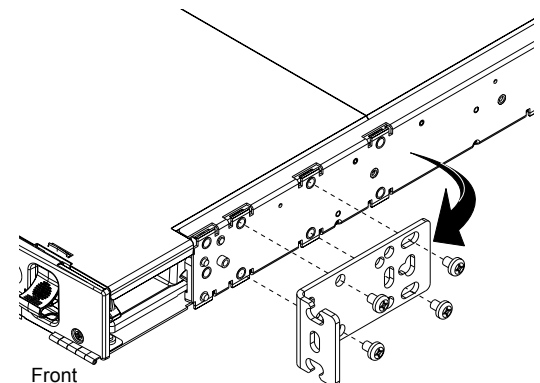

Figure 4
- Step 1:** Remove the factory-installed mounting bracket (Figure 4).